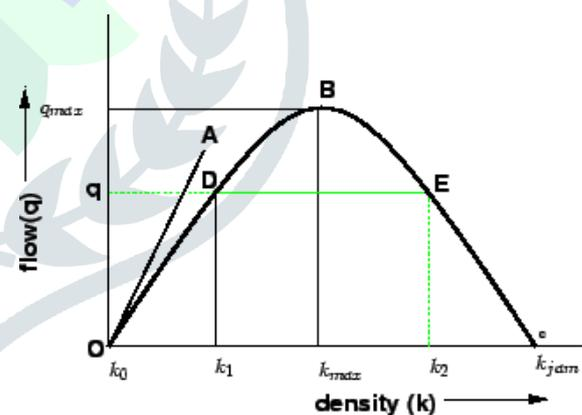

Figure 3: Flow density curve
4. When the flow is maximum then the density is jam density or maximum density. From the figure it is clear that the relation is in parabolic shape as shown in figure 3.